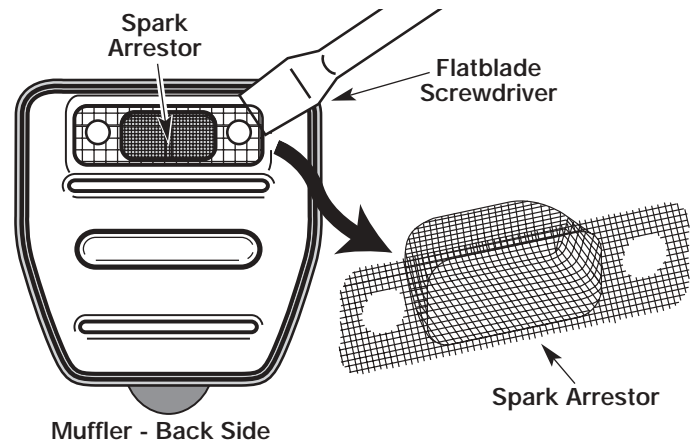

Fig. 39
4. Using a small flatblade screwdriver, carefully pry up the spark arrestor from the recessed hole (Fig. 39). Remove the spark arrestor from the muffler.
5. Clean the spark arrestor with a wire brush. Replace it if it is damaged or if it is impossible to clean thoroughly (Fig. 39).